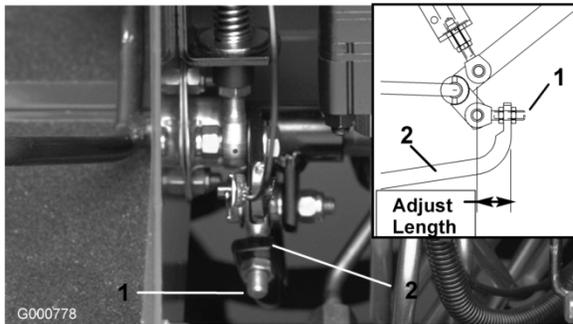

Figure 59
- Adjust jam nuts on pump rod end to move pump control tube forward to eliminate forward creep or rearward to eliminate rearward creep (Figure 59).